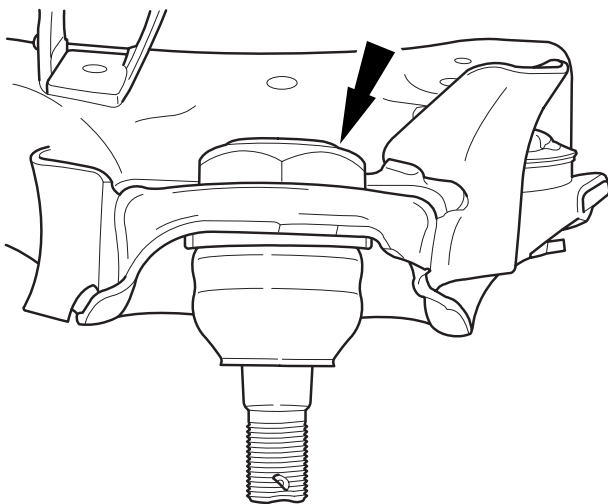

Figure 1. Ball Joint Nut.
6. Install a new nut as shown in Figure 1.